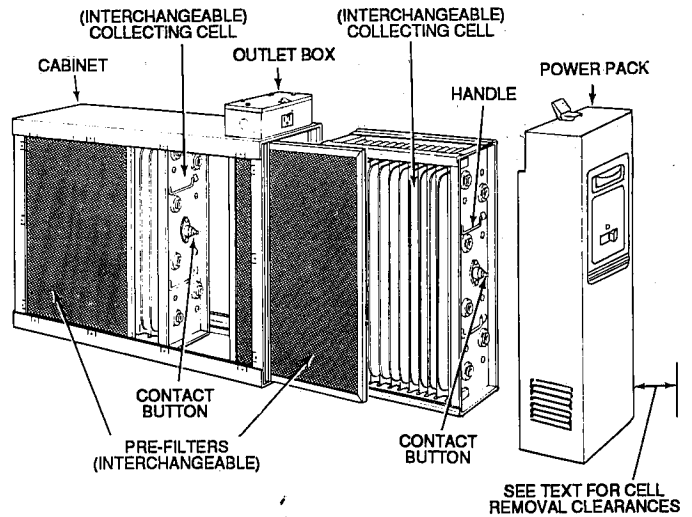

Figure 4
2. Allow the following clearances to permit removal of cells and pre-filters: (See Figure 4 and 5)
Your air cleaner is shipped from the factory with air flow from left-to-right. If this air flow is suitable for the installation, no further changes need to be made (Figure 4). For right-to-left air flow, remove both pre-filter and
1. Place the air filter cleaner on the floor. Stand it upright with the power door facing you (Figure 4). If a horizontal installation is being planned, lay the cleaner on its side, this will help you to visualize the relative location of all parts.